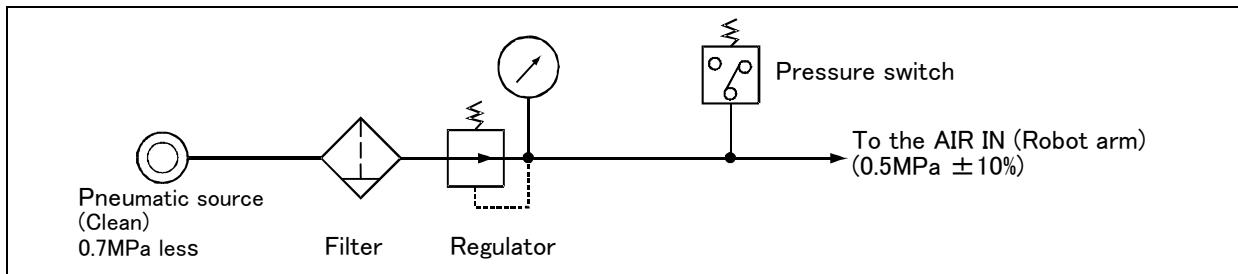

Fig.2-22 : Air supply circuit example for the hand
- (1) Make sure that a surge voltage protection circuit such as a diode is connected to the solenoid coil in parallel.
- (2) When the factory pneumatic pressure drops, as a result of the hand clamp strength weakening, there can be damage to the work. To prevent it, install a pressure switch to the source of the air as shown in Fig. 2-22 and use the circuit described so that the robot stops when pressure drops. Use a hand with a spring-pressure clamp, or a mechanical lock-type hand, that can be used in cases where the pressure switch becomes damaged.
- (3) The optional hand and solenoid valve are of an oilless type. If they are used, don't use any lubricator.
- (4) Supply clean air to the vacuum generation valve .
- (5) If the air supply temperature (primary piping) used for the tool etc. is lower than ambient air temperature, the dew condensation may occur on the coupling or the hose surface.